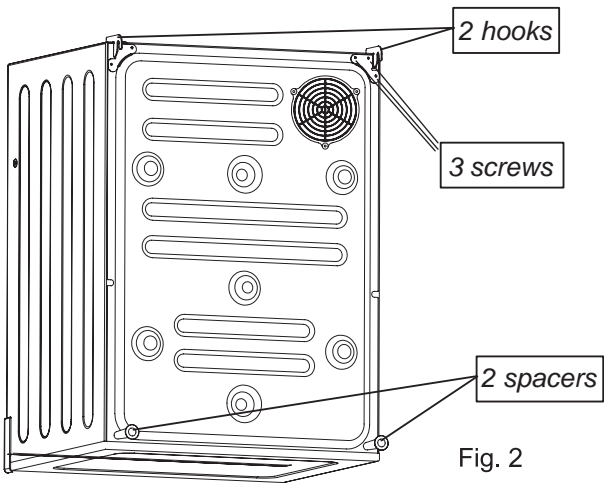

Fig. 2
4. Align the hooks as shown in Fig.2 and refit screws tightly. Install the spacers provided as Fig.2.